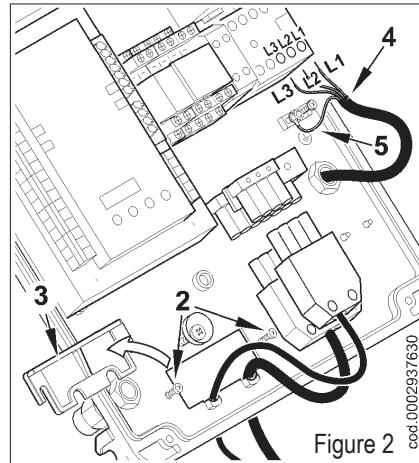

Figure 2
- Slacken the screws (2) and, after removing the cable float (3), pass the two 7 and 4 pole plugs through the hole (see figure 2). Connect the power supply cables (4) to the contactor, connect the cable to ground (5) and close the cable holder.